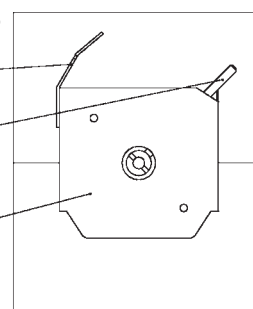

Fig. 2
2. Check whether the cross pin of the motor shaft and both of the cams run parallel. (Fig. 2)
2. Check whether the cross pin of the motor shaft and both cams are running parallel at the actuating drive. (Fig. 2)
2. Release the clamping screws of the cap. (Fig. 2)
6. Combine neutral wire with clamp 2 (N).